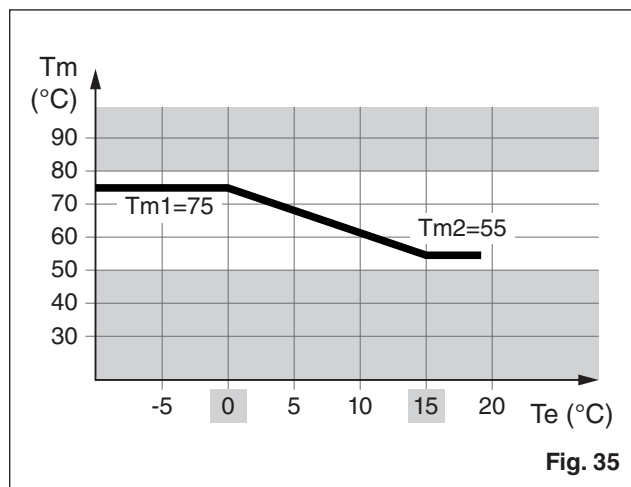

Fig. 35
Fig. 35 contains an example of the curve that determines the relationship between the delivery temperature to the system (TM) and the external temperature (TE).